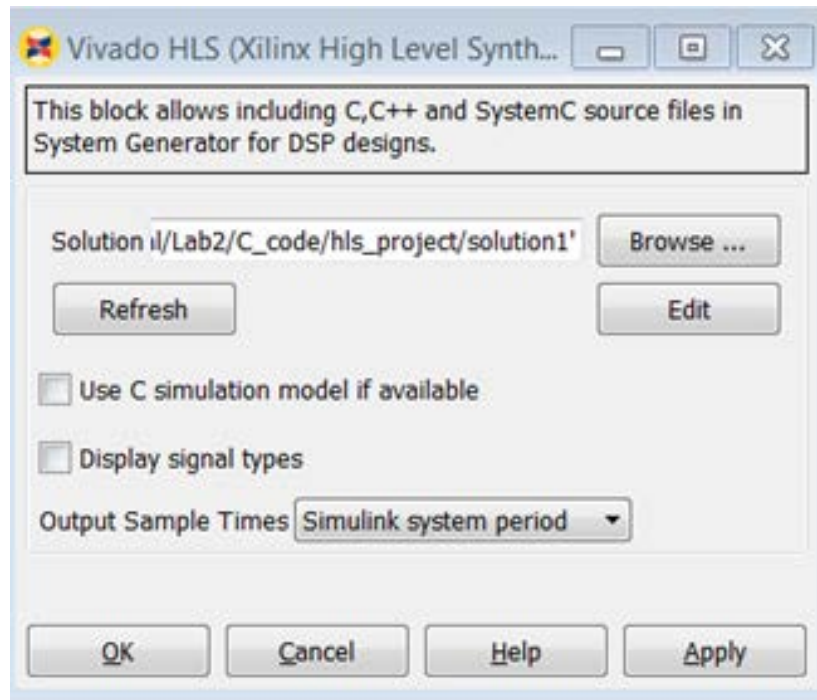

Figure 65: Importing Vivado HLS IP
7. Use the **Browse** button to select the solution created by Vivado HLS in Step 1, at `C:/SysGen_Tutorial/Lab2/C_code/hls_project/solution1`, as shown in Figure 65: Importing Vivado HLS IP.